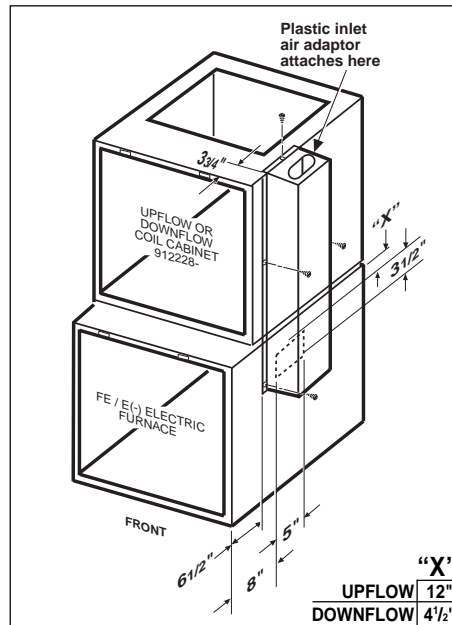

Figure 2. Upflow or Downflow Installation with 912228- Coil Cabinet.
4. For coil cabinet application use a pencil and tape measure, mark a small line 7 1/4" (3 3/4" for 912228-application) back from the front top edge of the top pan. Drop down about 34 inches and mark a second line 6 1/2" back from the front side of the cabinet (See Figures 2 and 3).